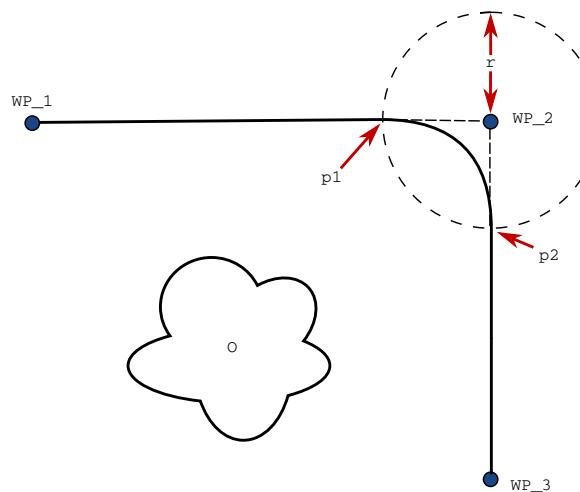

Figure 15.3: Blend over WP\_2 with radius  $r$ , initial blend position at p1 and final blend position at p2. 0 is an obstacle.
**Blend parameters** Apart from the waypoints, multiple parameters will influence the blend trajectory (see figure 15.3):